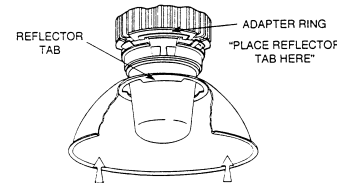

FIGURE 3
1. Place the reflector in position on the luminaire housing adapter ring. When correctly placed, all three tabs of reflector will rest on areas marked "Place Reflector Tab Here" on adapter ring. See figure 3.